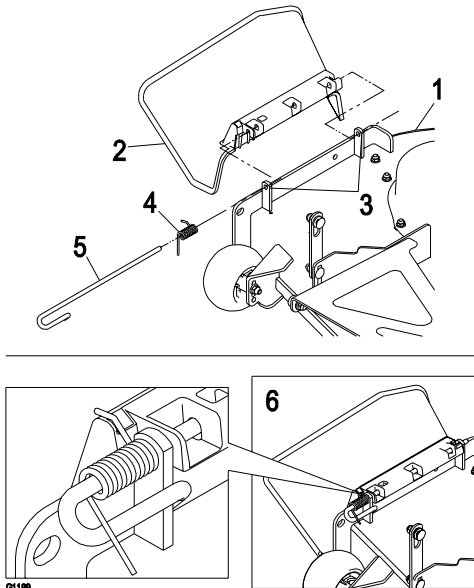

Figure 14
1. Locate items shown in Figure 14.
3. Orient the spring so that the short leg points towards the discharge deflector and the longer leg points towards the deck as shown in Figure 14. Place spring on rod and slide rod, straight end, through the front discharge deflector bracket, discharge deflector, and rear deflector bracket.
4. Make sure that the spring and rod are installed so that the rod is retained from sliding out by the front bracket and the spring holds the discharge deflector in the down position. Refer to (Figure 14) for proper orientation.